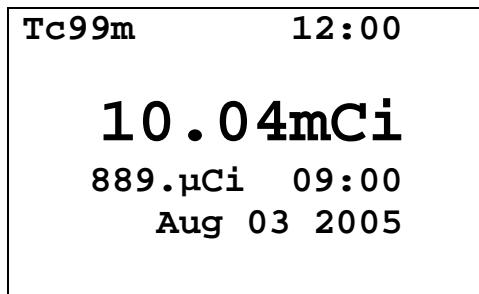

Figure 10-8 Future Activity – Different Day
- press **ENTER**. Figure 10-8 Future Activity – Different Day will appear.
If the day was changed, the new time and date will be shown as in Figure 10-8 Future Activity – Different Day.